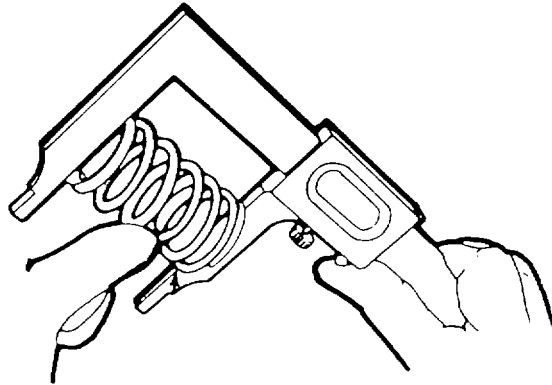

Figure 4-3. Valve Spring Measurement
- (2) Measure valve springs (Figure 4-3). Valve spring length must be greater than 2.2 in. (56 mm). Replace defective spring.